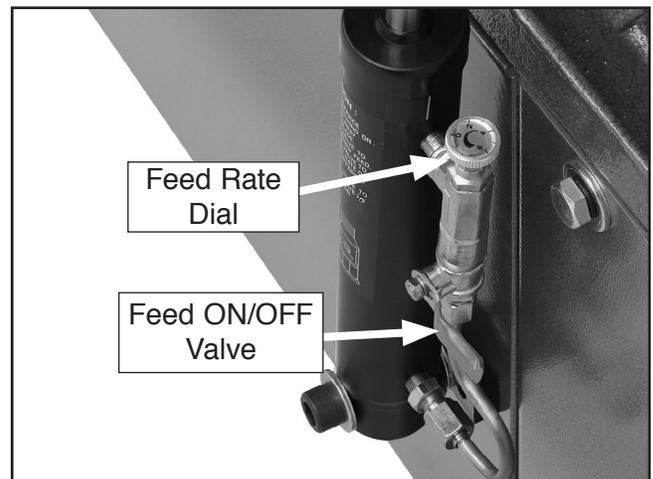

Figure 8. Feed ON/OFF valve and feed rate dial.
2. Lift the saw to the vertical position. Rotate the feed ON/OFF valve to the OFF position, as shown in **Figure 8**.